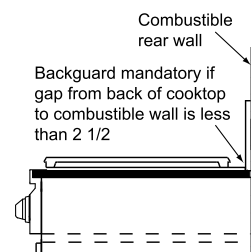

FIGURE 2
- Installation of a non-combustible material* (up to the hood) or a backsplash is always recommended, and mandatory if the distance to the back wall from the cooktop is less than 2 1/2" (Figure 2).